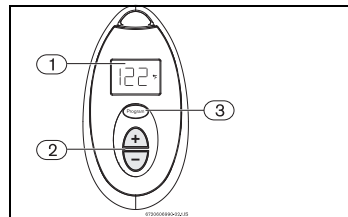

Fig. 12 Memorizing water temperature
- ▶ Press the buttons  $\oplus$  or  $\ominus$  on the remote control (Fig. 12, pos. 2), until the required temperature appears on the remote control display (Fig. 12, pos. 1).
control (Fig. 12, pos. 3) for 3 seconds.